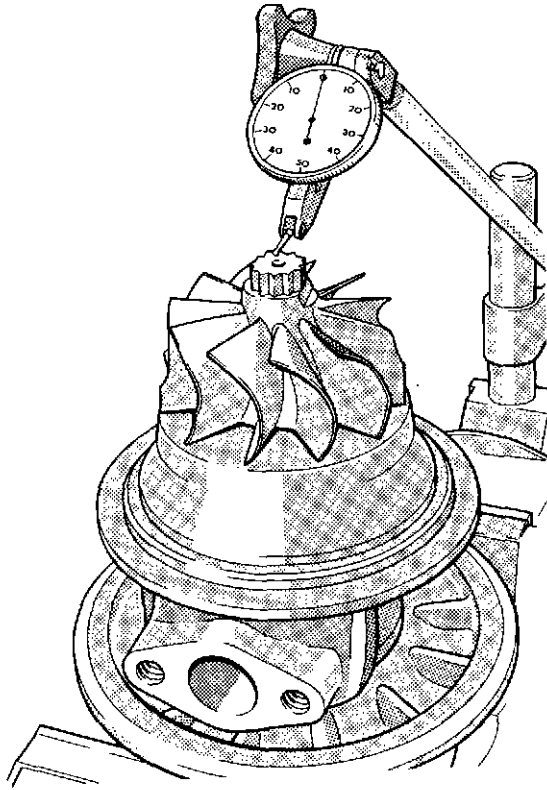

Fig. 6 End float check
- 9 Mount a D.T.I. as shown in figure 6, with the button resting on the compressor end of the rotor shaft. Move the shaft axially to its full extent in both directions and check the readings on the dial. The total end float should not exceed 0,25 mm (0.010 inch).